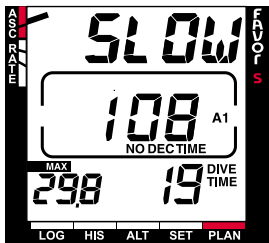

Fig. 3.12 ASCENT RATE INDICATOR
- the maximum allowed ascent rate, 10 m/min [33 ft/min], is exceeded. A blinking SLOW warning will alternate with the depth display, and a continuous beeping alarm is given. (Fig. 3.12).